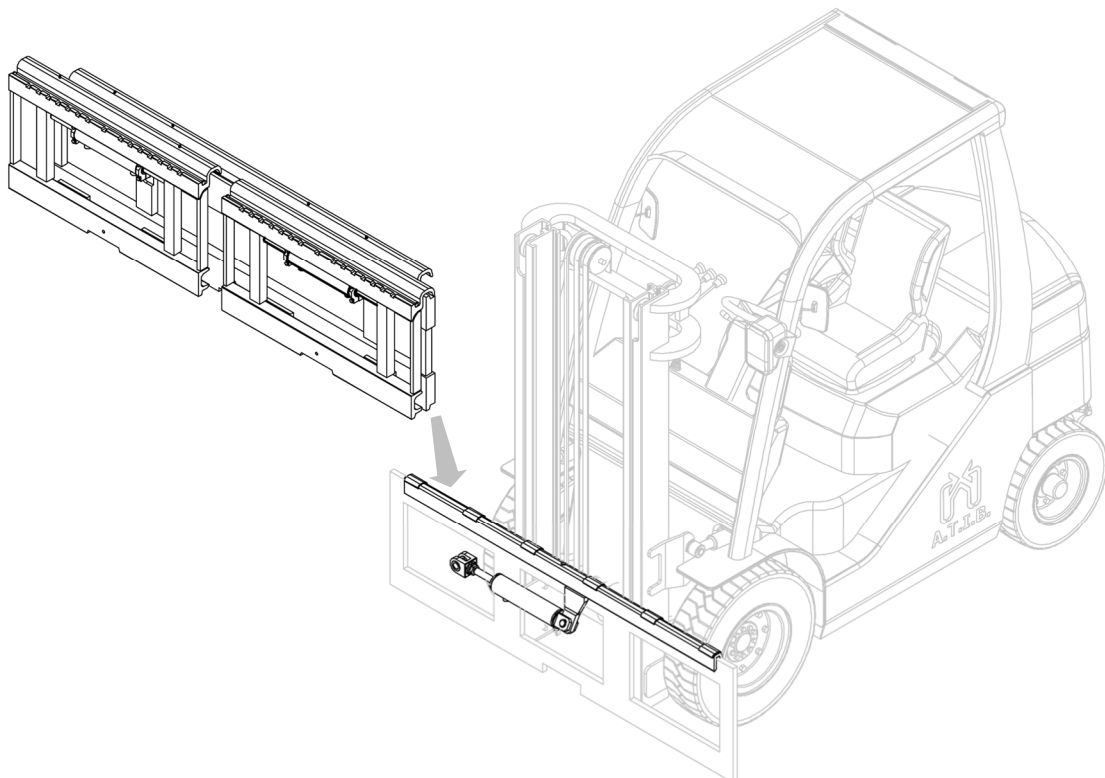

Figure 5
8. With an overhead crane or hoist of sufficient capacity, place the equipment on the double coupling, taking care to position it correctly (see Figure 5). Once the equipment is in place, re-lock the cylinder fork using the previously removed pin and snap rings.